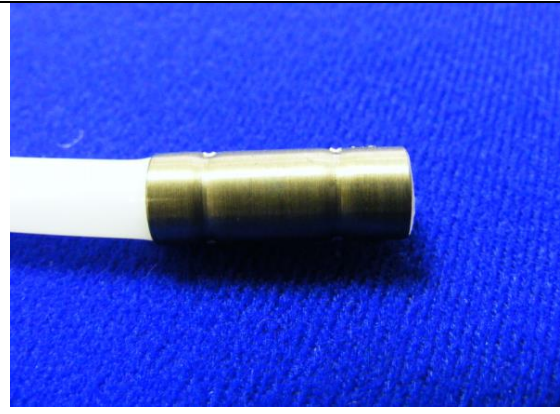

Figure 8: After crimping
- 9 Inspect the crimp for any damage (Figure 8)